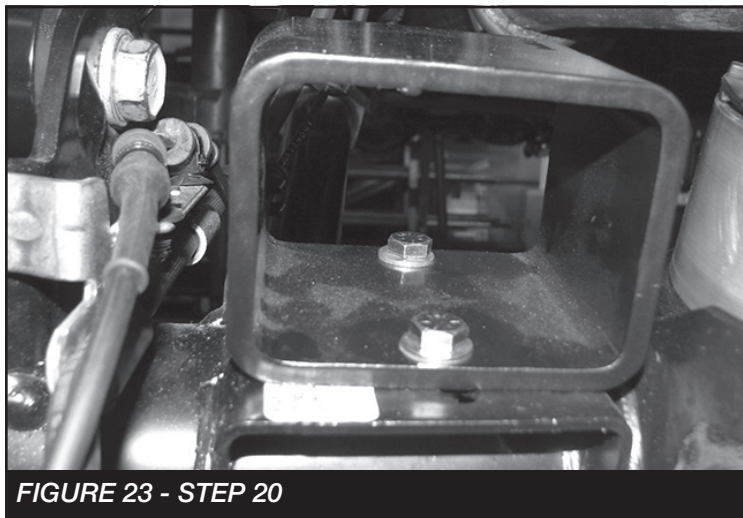

FIGURE 23 - STEP 20
20. Install the Fabtech Bumpstop spacer using the supplied 5/16 x 1" hardware for the front hole and the 5/16" x 3/4" hardware for the rear hole location. Torque to 29 ft-lbs. **SEE FIGURE 23**